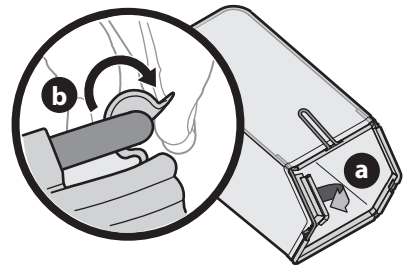

Figure 6
1. Perform the following to assemble the grass catcher (Figure 6).